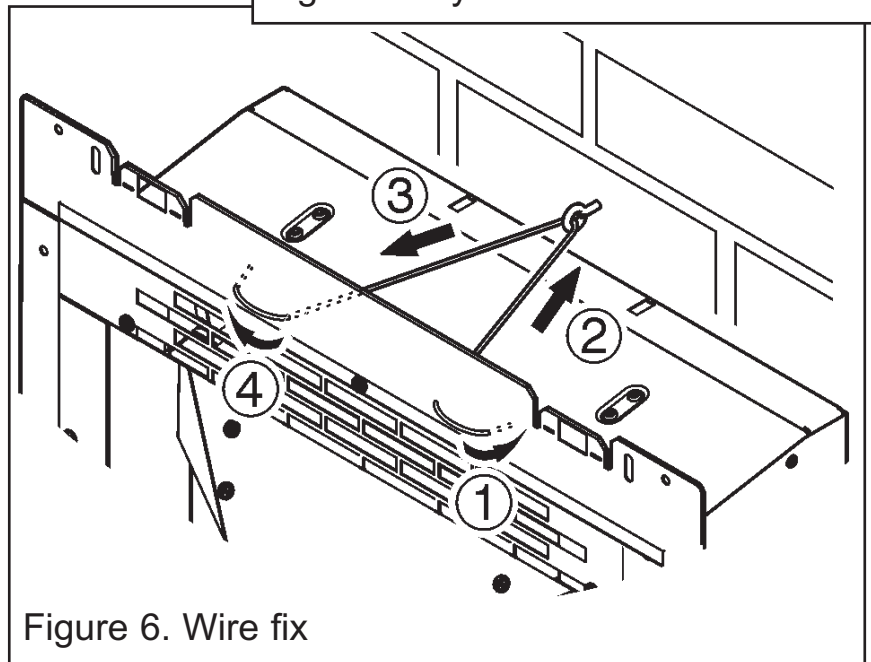

Figure 6. Wire fix
7. At the top of the heater there are four small holes, two each side of the heater. From the front of the heater, thread about 50mm of the tension wire into the outside small hole on the right side of the heater (See point 1 - figure 6).
8. Thread the other end of the wire through the remaining small hole to the left. Continue to push the wire through this hole until there is only a small loop of wire at the front of the heater (See point 2 - figure 6).
9. At the back of the heater there will be a long piece and a short piece of wire coming through the two holes. Hold the short piece and give the long piece a gentle tug. This will secure the tension wire. Take the long piece and thread this through the eyescrew in the back of the fireplace opening (See figure 6).
10. From the back of the heater thread the long piece of tension wire through the inner small hole on the left hand side of the heater (See figure 6).
11. Locate the heater in the fireplace opening, then from the front of the heater, gently pull the tension wire on the right hand side to gather up the excess until the heater is secure. Thread the wire through the remaining small hole to lock the wire and heater in place (See point 4 - figure 6).